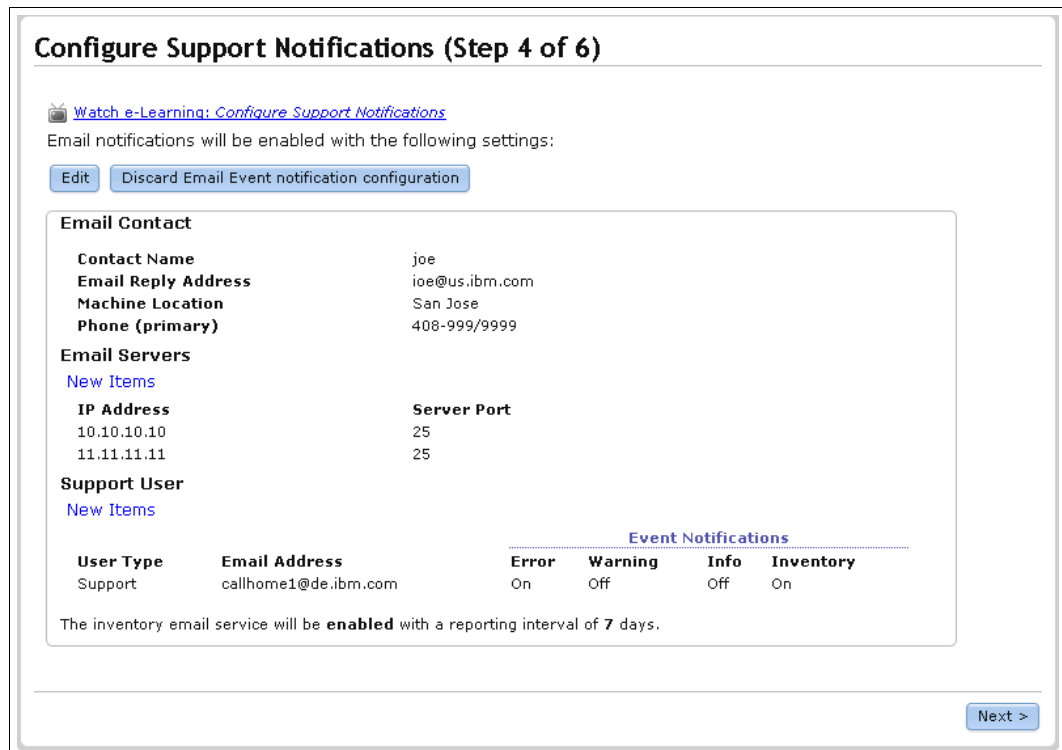

Figure 2-22 Setup wizard - Finalize email settings
- The Email Event Notification setup is successfully done. The setup wizard shows the new email configuration. You can modify the settings, discard them, or continue with the configuration by clicking **Next** (Figure 2-22).